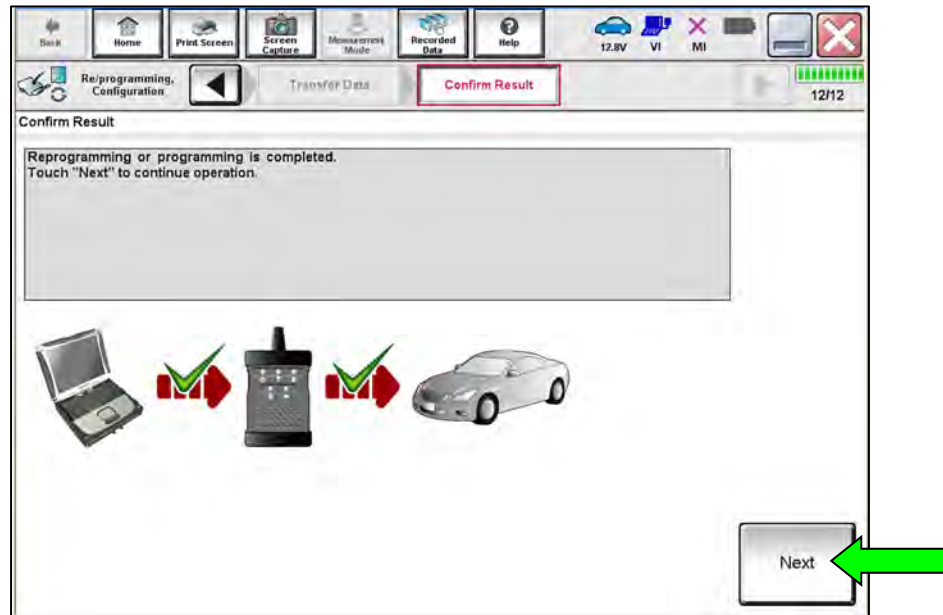

Figure 21
- When the screen in Figure 21 on page 14 displays, the reprogramming is complete.
- If the screen in Figure 21 does not display (indicating that reprogramming did not complete), refer to **Sonar Control Unit Recovery** on page 15.